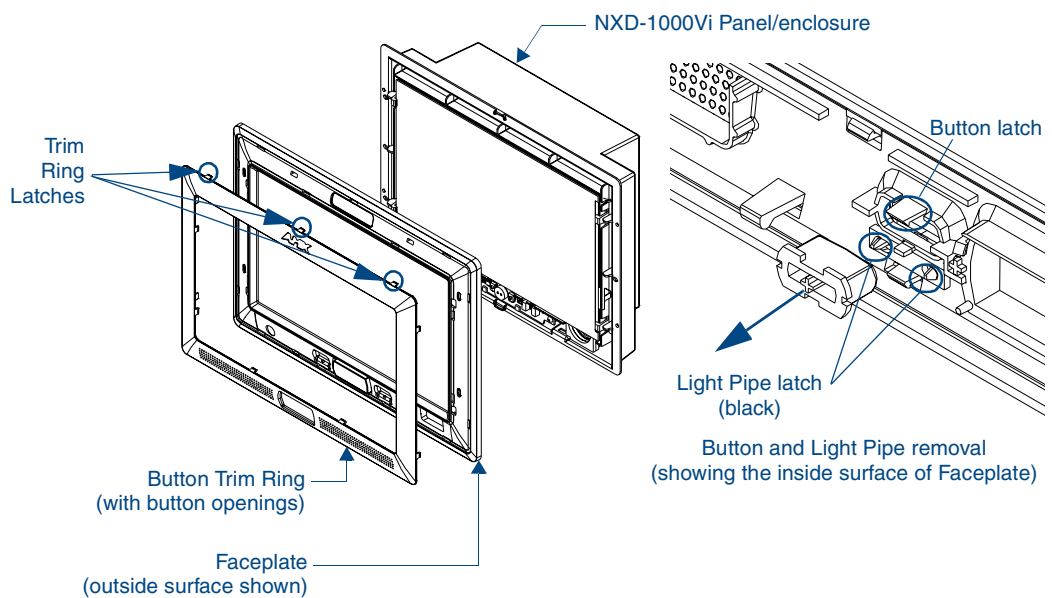

FIG. 18 Removing the No-Button Trim Ring
- Gently tug along the edges of the No-Button Trim Ring and work your way around the edges to remove it from the Faceplate (FIG. 18).
- From along the internal surface of the Faceplate, install the two buttons by firmly inserting them into the button openings until the Button latch secures the button in place (FIG. 18).